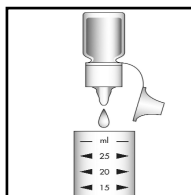

Figure 1
1. Add 10 drops of A-1505 Stabilizer Solution to the empty sample cup (fig. 1).
1. Add 1.0 mL of A-1504 Stabilizer Solution to the empty sample cup (fig. 1).